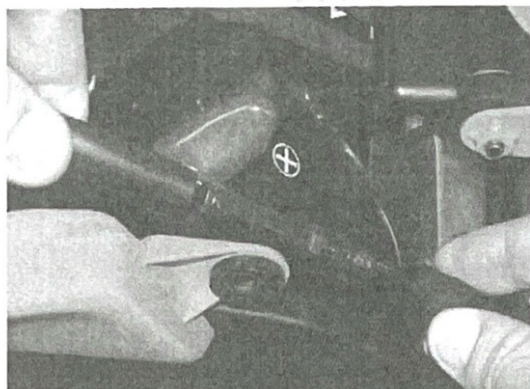
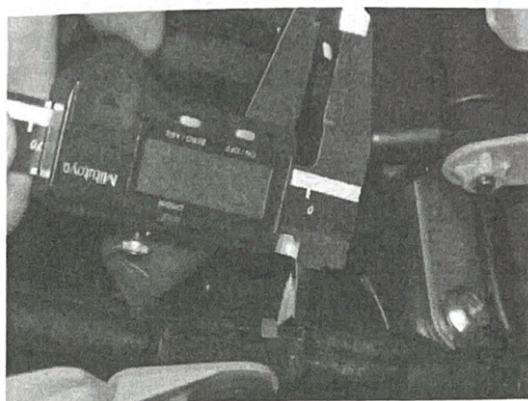
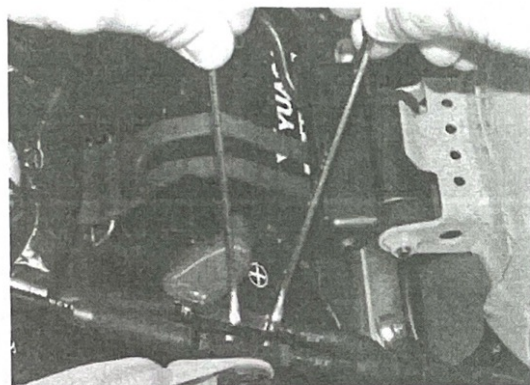
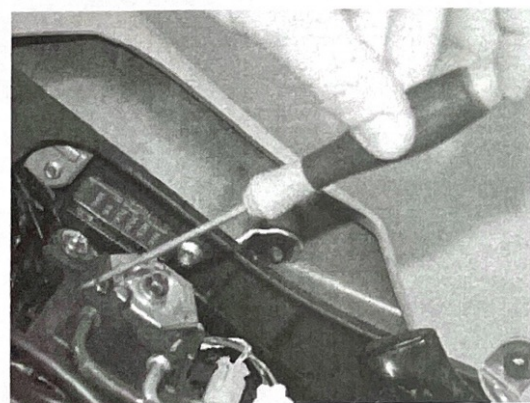

Figure 5
Figure 6
Figure 7
Figure 9
3. Slide the rubber protection of the cable adjusters (Figure 5). **WARNING!** measure (Figure 6) or mark the distance on both adjusters so you can adjust them after installation of Akrapovic exhaust system! Loosen the nuts and shorten the adjusters (Figure 7, 8). Remove the safety pin and cables from the exhaust valve servo motor (Figure 9, 10, 11, 12). **WARNING!** do not turn the servo motor wheel with force (only by ignition key switching!) or the servo motor could be damaged.